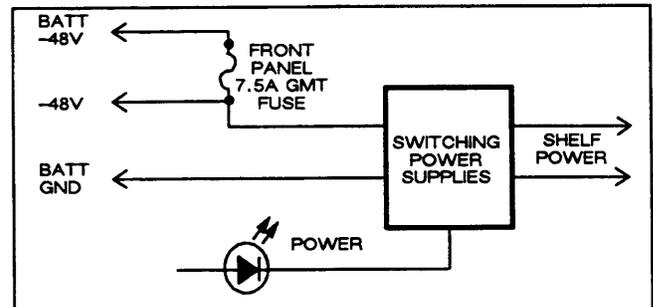

Figure 8. DDL210 COT Power Unit Block Diagram
4.05 The plug-in Power Unit mounts in the right most shelf position and is equipped with a POWER LED and a fuse accessible from the front panel. One Power Unit is required per shelf. See Figures 8 and 9.